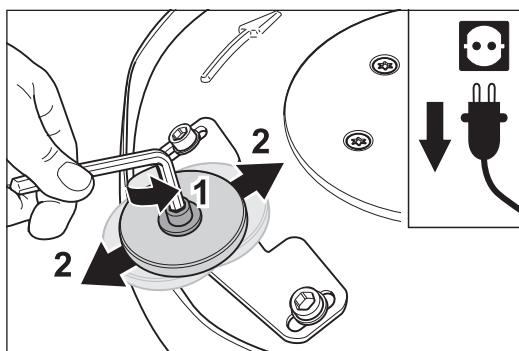

Fig. 28 Undo the screw in the center of the wall-protecting roller (1) and then position the roller (2).
- 2 Use an Allen key to undo the screw in the center of the wall-protecting roller and then move the wall-protecting roller into the desired position (fig. 28). Tighten the screw again.